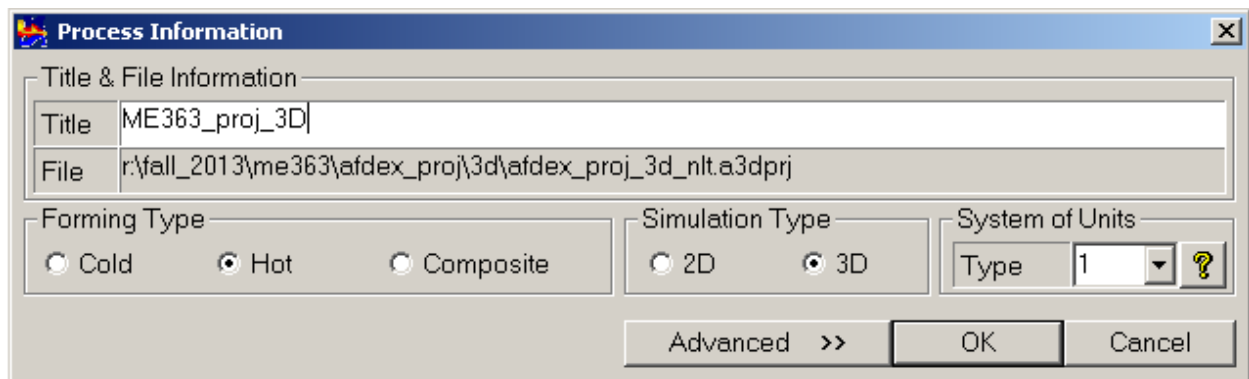

Figure 3: Process Information Window
1. Set the process *forming type* to hot (Figure 3) by right-clicking on the top of project tree and selecting *Properties*
7. Set the *process forming type* to cold (Figure 3)